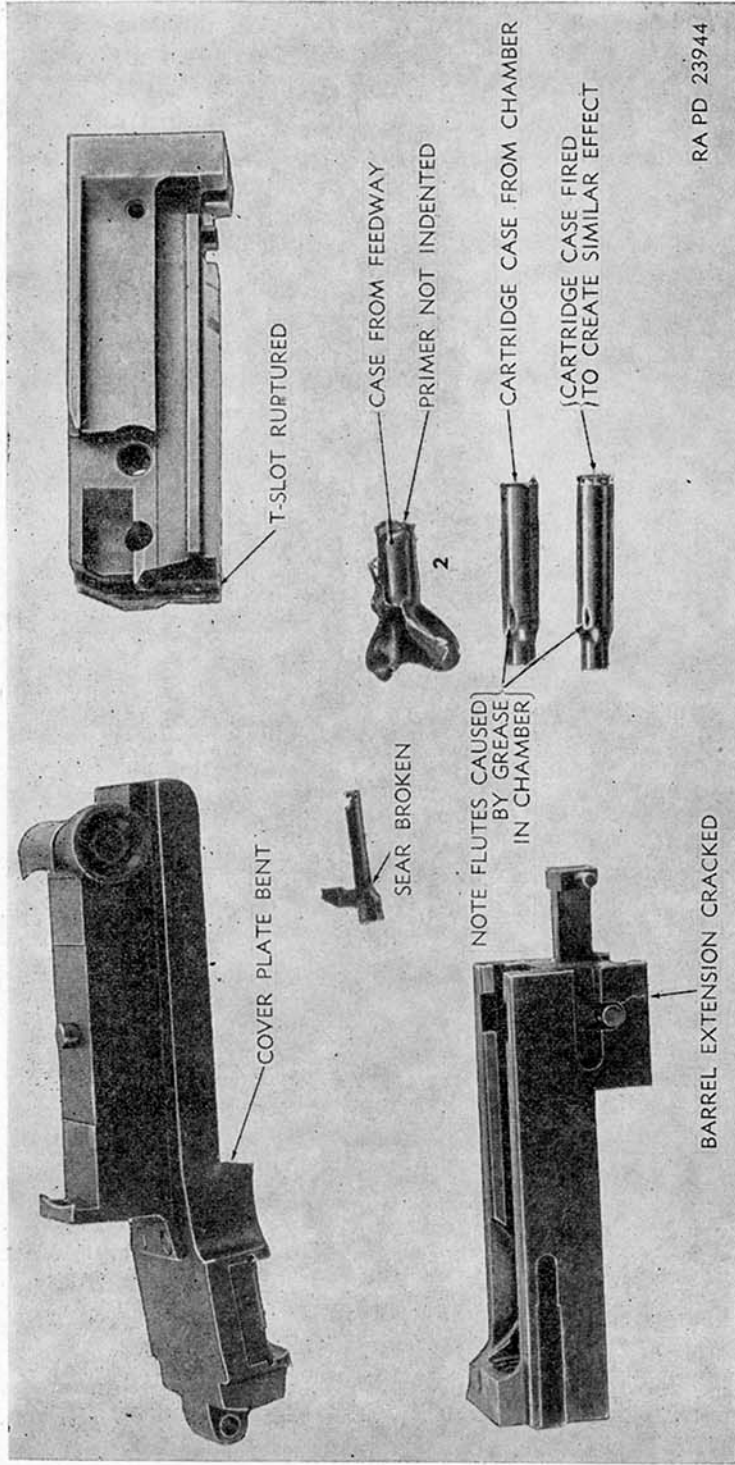

Figure 30. Damage from firing with grease in chamber and bore, cal. .30 machine gun.
- (3) Grease or heavy oil in the chamber invariably produces a flute in the fired case (fig. 30). Note the characteristically elongated and radially contoured shape of these flutes. Case heads will show some indications of high pressure. Figure 30 also shows damage to the gun which commonly results from firing with grease in both the chamber and the breech end of the bore. The high pressure ruptures the case head, releasing the powder gases into the action. Note the fractured "T" slot, cracked barrel extension, and bent cover.